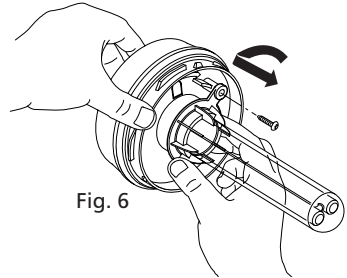

Fig. 6
- ii) Remove the quartz glass tube in a similar way by removing the retaining screw, rotating the plastic moulding anticlockwise and pulling away from the body, (see Fig 6).